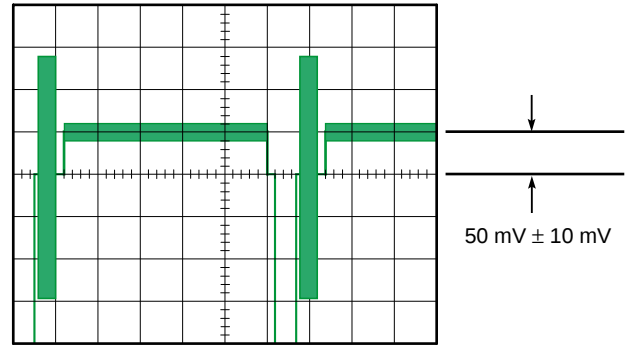

Fig. 4-4
- Adjust data with the **ARROW** keys so that the Pedestal level becomes 50 mV $\pm$ 10 mV as shown in Fig. 4-4.